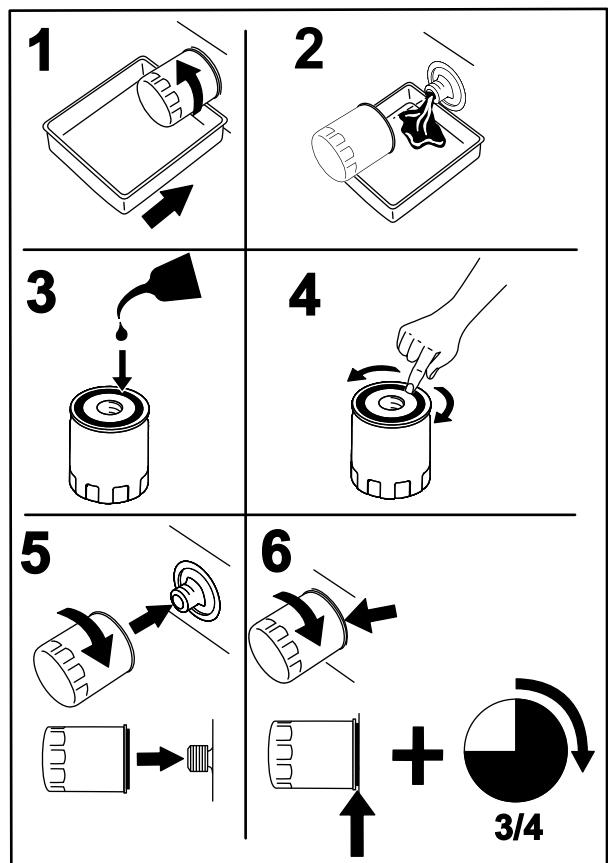

Figure 41
4. Place a drain pan under the oil filter, and turn the filter counterclockwise to remove it (Figure 41).